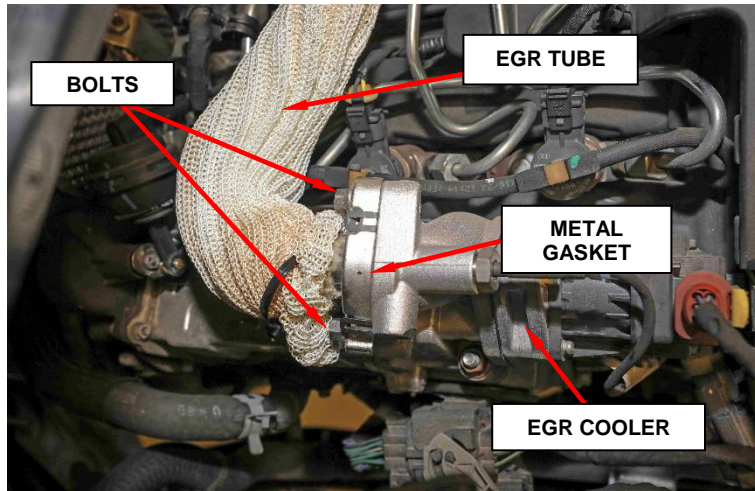

Figure 10 – EGR Tube
11. Remove the EGR tube bolts (2) at the EGR cooler (Figure 10).
13. Remove the EGR tube and **DISCARD** the metal gasket (Figure 10).